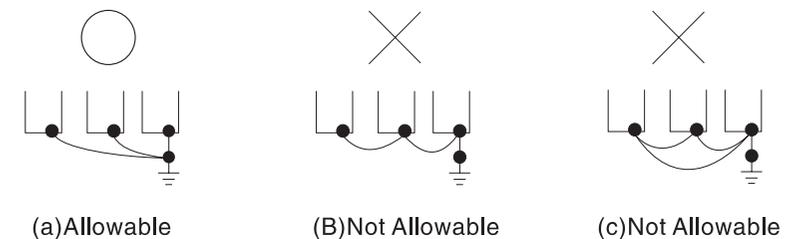

Figure 3.12 Grounding of Several Inverters
- Connect the ground terminal (E) with shielded wire.
- When using several inverters together, ground the units as shown in Figure 3.12 (a). Do not loop the ground wires as shown in (c).